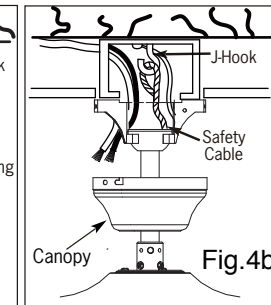

Fig.4b
**Diagram Fig.4b is for Downrod Mount.